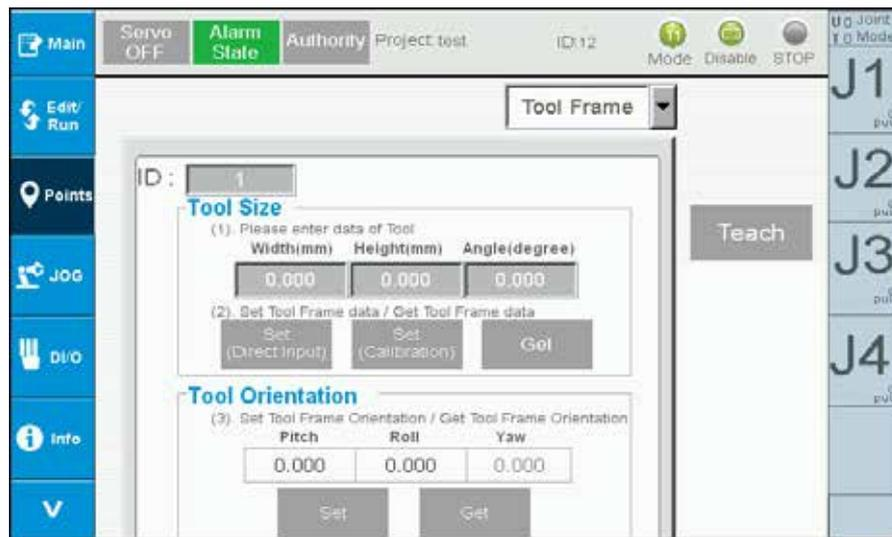

Figure 2-22 Point information- Tool coordinates setting
This page is used to perform ToolFrame related settings (Figure 2-22), including Tool Size and Tool Orientation settings. Instructions are as follows:
- vii. Press  to return to the main Tool Setting page, shown as Figure 2-22
- E. Press to return to the main Tool Settings screen, shown as Figure 2-22.